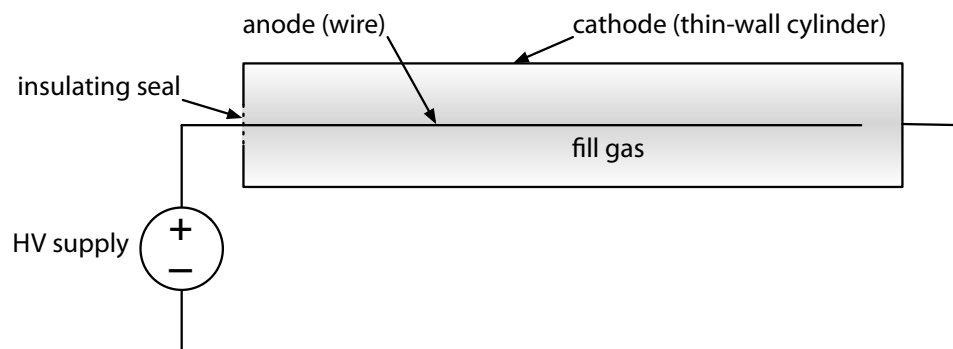

Figure 1: Basic geometry of a Geiger-Müller tube.
For this project, you will be building a very basic Geiger-Müller (GM) counter. The GM counter is a fundamental type of radiation detector (one of the first, introduced in 1928), consisting of a gas-filled tube surrounding a high voltage wire. The electric field between the tube wall and the wire is such that ionizing radiation incident on the tube will cause the gas to break down and allow a pulse of current to flow between the wire and the wall of the tube. The geometry is shown in Figure 1.